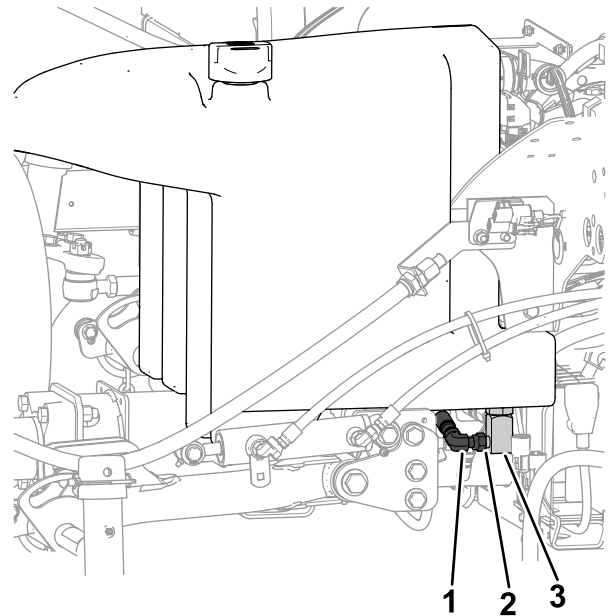

Figure 118
2. Place a large drain pan under the manifold (Figure 118) on the bottom the hydraulic tank; refer to Hydraulic Fluid Capacity \(page 73\).